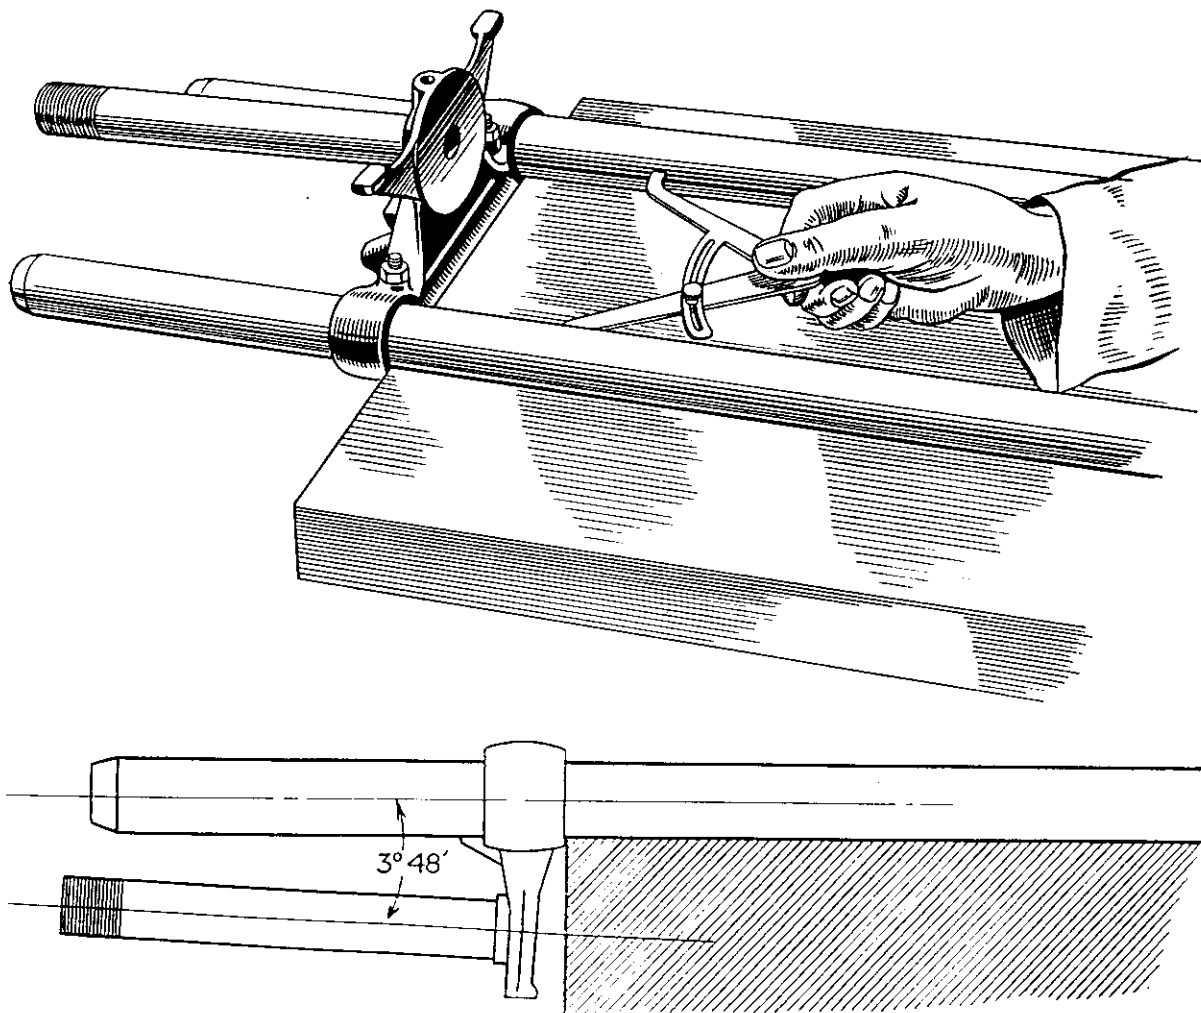

Fig. 4. To Check the Crown Lug.
- (2) A damaged stanchion can be trued if the bow does not exceed  $\frac{1}{32}$  in. If the stanchion shows a sharp bend or indentation at the fork crown position, it must be discarded. To true the stanchion, place it between two suitable swage blocks and apply pressure by a hand press to the highest position. Re-check by rolling the stanchion on a surface table and finally place in a lathe and check for concentricity.
- (3) Place the head lug in a vice and fit and tighten the stanchions with the cap nuts. Check that the stanchions are parallel to each other at right angles to the under face of the lug and parallel to the centre line of the fork stem (i.e. viewed from the front of the machine). To check the latter, place a  $1\frac{1}{2}$  in. diameter bar into the top lug sleeve nut position and tighten the pinch bolt. The angle of the lug sleeve nut hole in relationship to the stanchions can also be verified at this stage, this should be  $3^{\circ} 48'$ .
- (4) Remove the steering damper assembly, straighten the handlebar stops if necessary and check the crown lug for out of truth. Insert two stanchions into the lug (See Fig. 4) and tighten up the pinch bolts. Lay the assembly on to the setting out table.